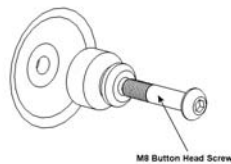

Figure 4
2. Attach mounting buttons to display using M8 bolts. Tighten using Allen key included (see Figures 4 & 5).